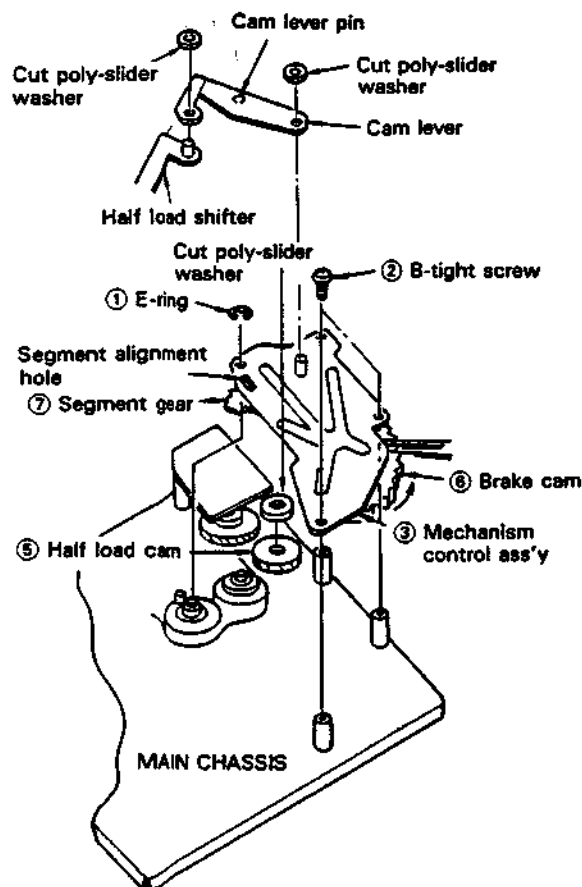

Figure 1-25
• Removal (Fig. 1-25)
2. Remove the E-ring ①.
3. Remove the three screws ② (LX-HZ3027GEFD).
4. Remove the mechanism control assembly ③.
• Installation (Fig. 1-25.)
1. Remove the cut poly-slider washer ④.
2. Remove the relay gear (B) ⑤.
3. Adjust the position of the shifter assembly (A) 11 so that the alignment hole ⑥ of the chassis is aligned with the alignment holes of the shifter assembly and brake drive lever 13. (Remove the main brake spring 14 for easier positioning.)
4. Remove the tension arm spring, and fully turn loading gears (A) ⑧ and (B) ⑩ in the direction indicated by the arrow ⑥, to get the mechanism in the unloading mode.
5. Turn the brake cam ⑥ of the mechanism control assembly in the direction indicated by the arrow until the alignment hole ⑥ of the segment gear is at the center of the segment alignment hole for the auxiliary angle.
6. Attach the mechanism control assembly ③ to the main chassis. This can be done easily if the shifter assembly (A) 11 is moved to the left and right. Secure the three screws ②.
7. Put the E-ring ① on.
9. Install the relay gear (B) ⑤.
10. Install the washer ④.